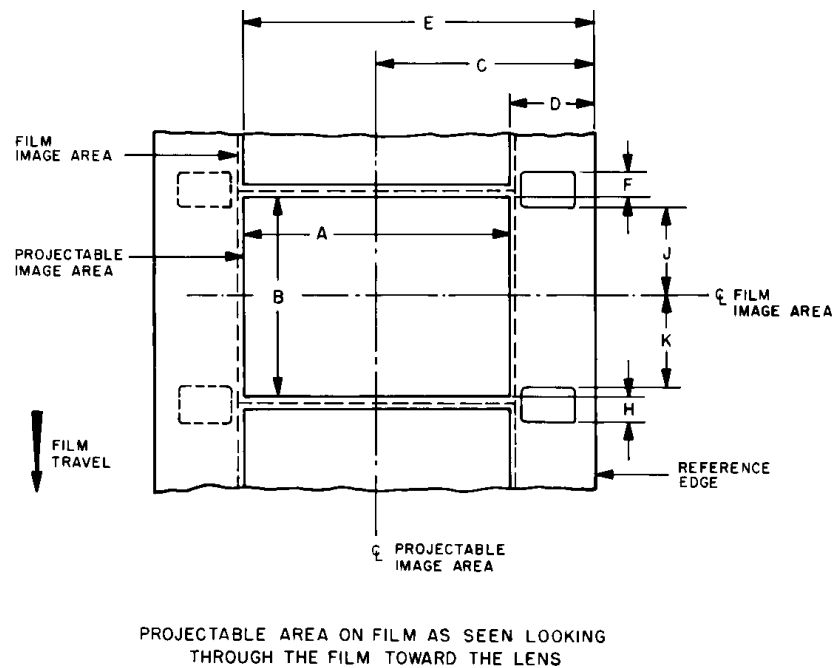

Figure 1 – Projectable image area on film as seen looking through the film toward the lens
3.1 The dimensions shall be as given in figure 1 and table 1.